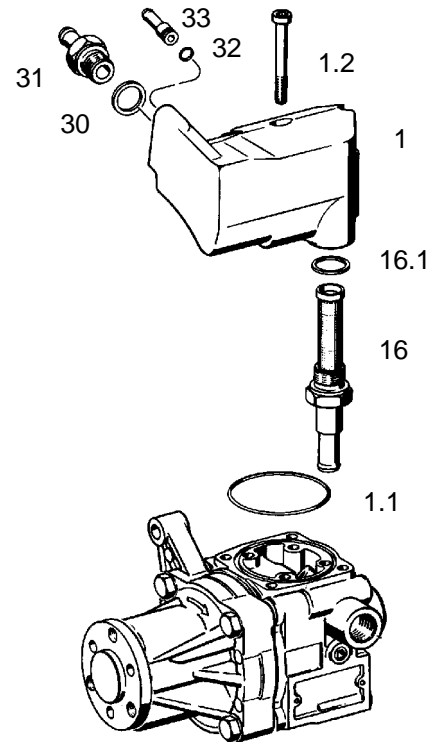

Fig. 37
7.3 Version with screen (16)
Fit hose nipples (31 and 33) with sealing ring (30) and O-ring (32) (tightening torque 35 ± 10 Nm) (**Fig. 37**).